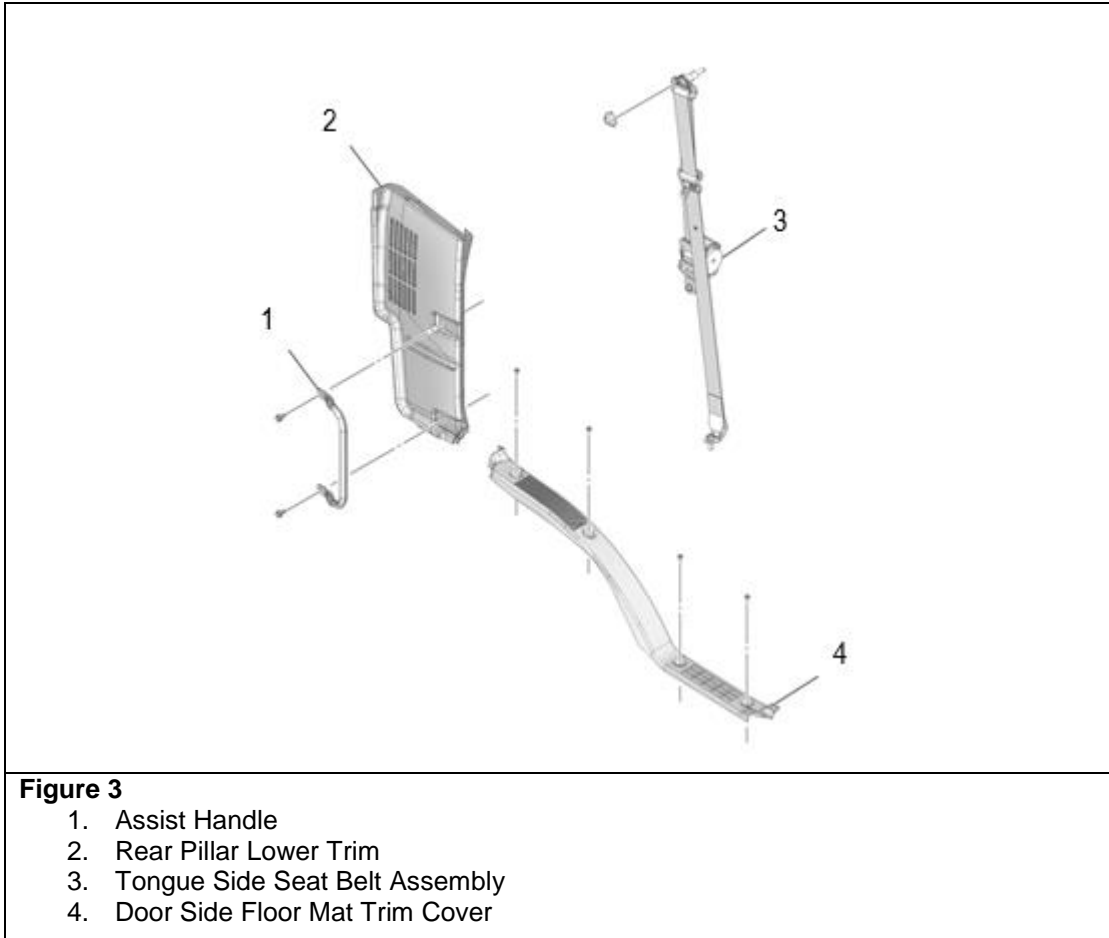

Figure 3
4. Remove the two (2) 12mm bolts from the assist handle. Remove and set aside for reuse. (See Figure 3.)
5. Remove the four (4) T25 screws from the door side floor mat trim cover. Remove and set aside for reuse. (See Figure 3.)
6. Remove the rear pillar lower trim by pulling the rear of the cover inwards to the center of the cab to detach the mounting clips. Remove and set aside for reuse. (See Figure 3.)
10. Re-install the lower panel trim and firmly push the panel to engage the retaining clips. (See Figure 3.)
11. Re-install the door side floor mat trim cover using the four (4) T25 screws. (See Figure 3.)
12. Re-install the assist handle using the two (2) 12mm bolts. Tighten both bolts to the specified torque. (See Figure 3.)